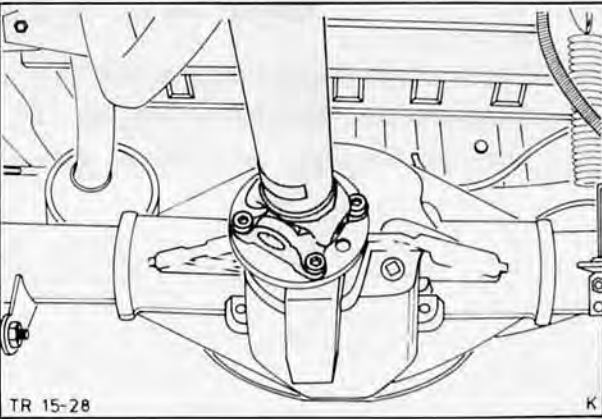

Fig. 134. Attach driveshaft to rear axle flange
9. Attach driveshaft to rear axle flange, Fig. 134.